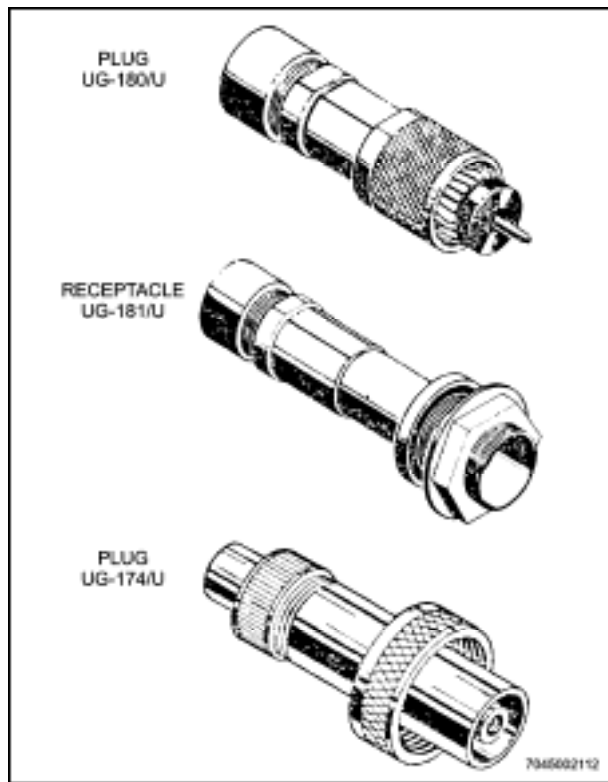

Figure 12-6 Typical Pulse Connectors
- e. **Pulse Series.** A high-voltage connector for pulse or DC applications. (See Figure 12-6.) Designed to be used with rubber dielectric pulse cables but may be used with equivalent-size cables of other constructions where high voltage is not required. With ceramic inserts, peak voltage is 15,000 volts at sea level. With rubber inserts, peak voltage is 5,000 volts at 50,000 feet, but higher voltages may be used at lower altitudes.